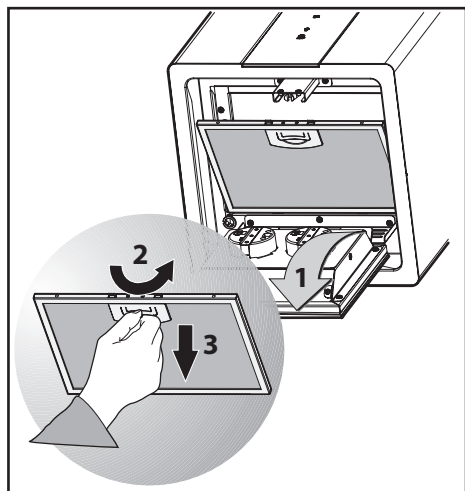

Fig.11
- Remove the aluminium panel by pulling the handle as shown in fig. 11.